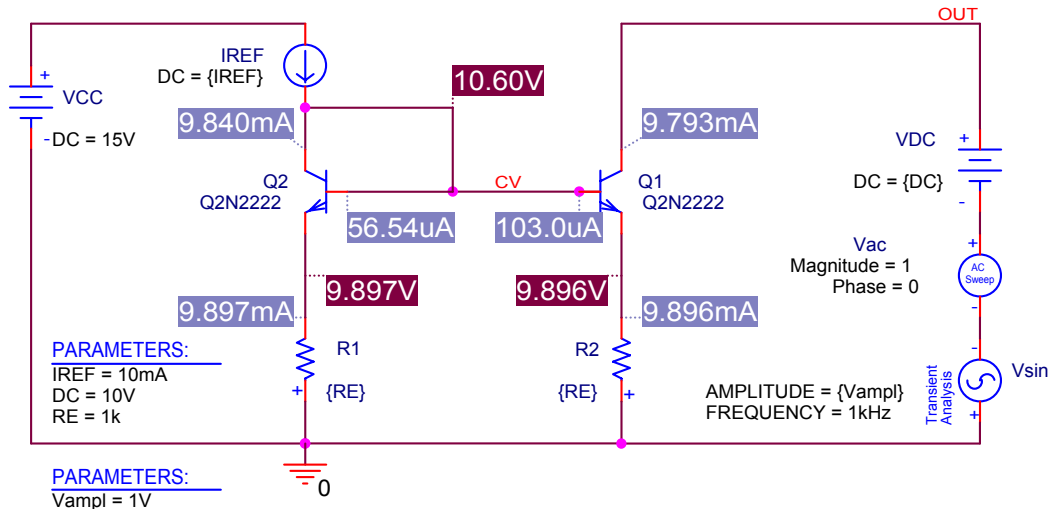
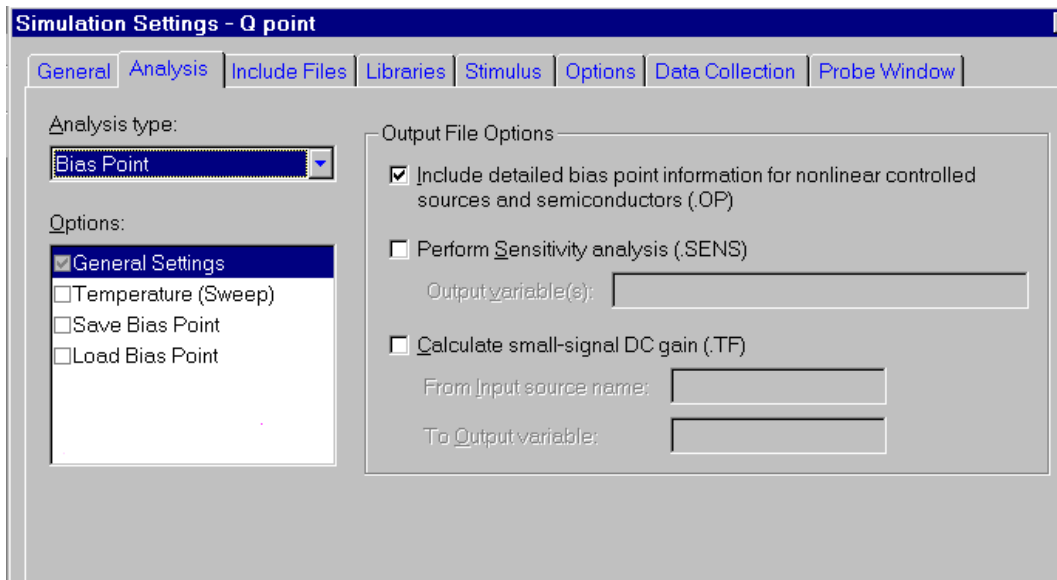

FIGURE 1:
FIGURE 4:
Figure 1 shows the schematic of a current mirror that we want to create. To get started you will have to read pp. 1-44 in Herniter, *Schematic Capture with Cadence PSPICE*. These pages describe how to open the program, select and wire parts.
We will use the circuit shown in the schematic of Figure 1 to illustrate a number of different types of PSPICE simulation.. Click on any figure label to jump to that figure.
1. Q-point (called a BIAS POINT SIMULATION) (Bias values determined as shown in Figure 1)
To obtain the Q-point values shown in Figure 1 we first run a simple Q-point analysis by selecting PSPICE/ NEW SIMULATION PROFILE and choosing the ANALYSIS TYPE as BIAS POINT. I chose "Q-point" for the name of this SIMULATION PROFILE. The simulation settings are shown in Figure 4 below.
PROBE plot of DC I - V curve for the current mirror in Figure 1 using PASTE SPECIAL/PICTURE (macro Ctrl+P). This figure is not WYSIWYG (*what you see is what you get*). Compliance voltage label is added in WORD.
PROBE plot for current mirror in Figure 1 using PASTE SPECIAL/DEVICE INDEPENDENT BITMAP (macro Ctrl+D). This figure is WYSIWYG.